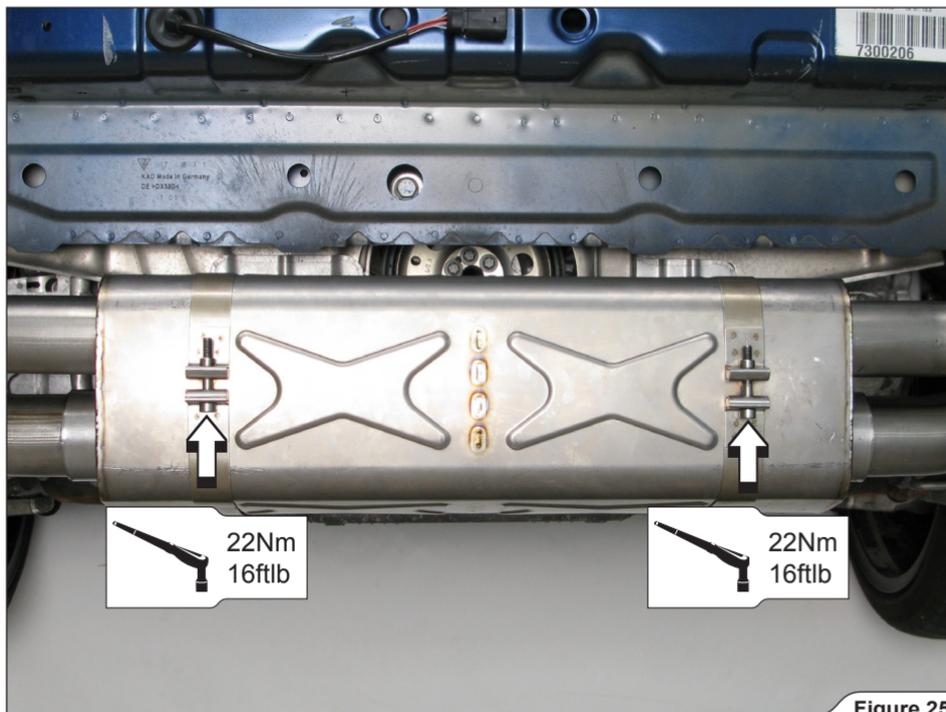

Figure 25
11. For Slip-On and Slip-On with optional Link Pipes: tighten the muffler clamps to the specified torque (Figure 25).